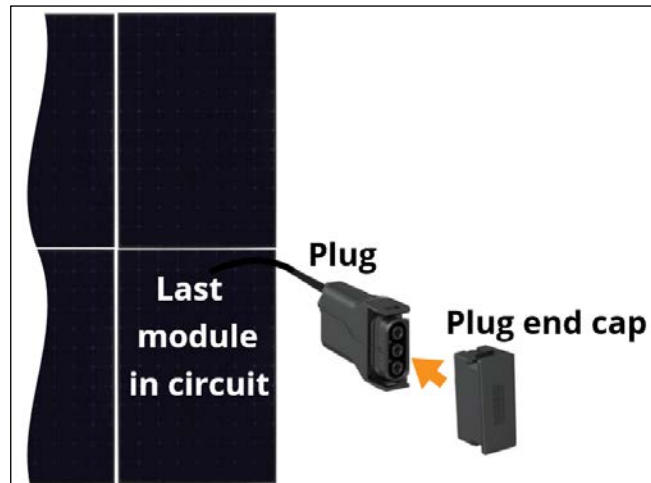

Fig. 26
19. Install an end cap in the last module in the circuit (Fig. 26; *example only*).